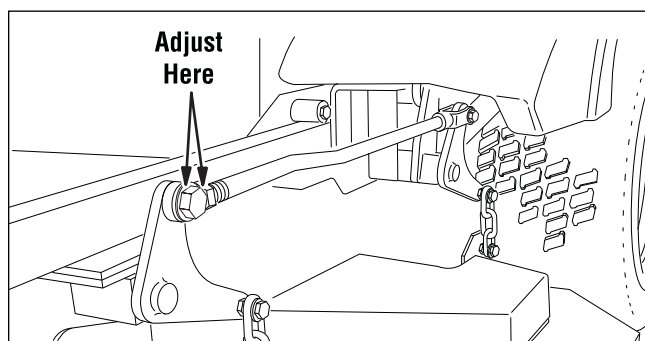

Figure 42. Adjust Lift Rod Timing
7. Refer to Figure 42. To adjust the inner lift rod, loosen the jam nut on the front ball joint then remove the 1/2" hardware fastening the ball joint the the lift pivot arm. Turn the ball joint clockwise to shorten the distance between the rod pivots or counterclockwise to lengthen the distance between the rod pivots. Reinstall the ball joint on the lift pivot arm and secure with the 1/2" hardware previously removed. Tighten the jam nut against the lift rod.